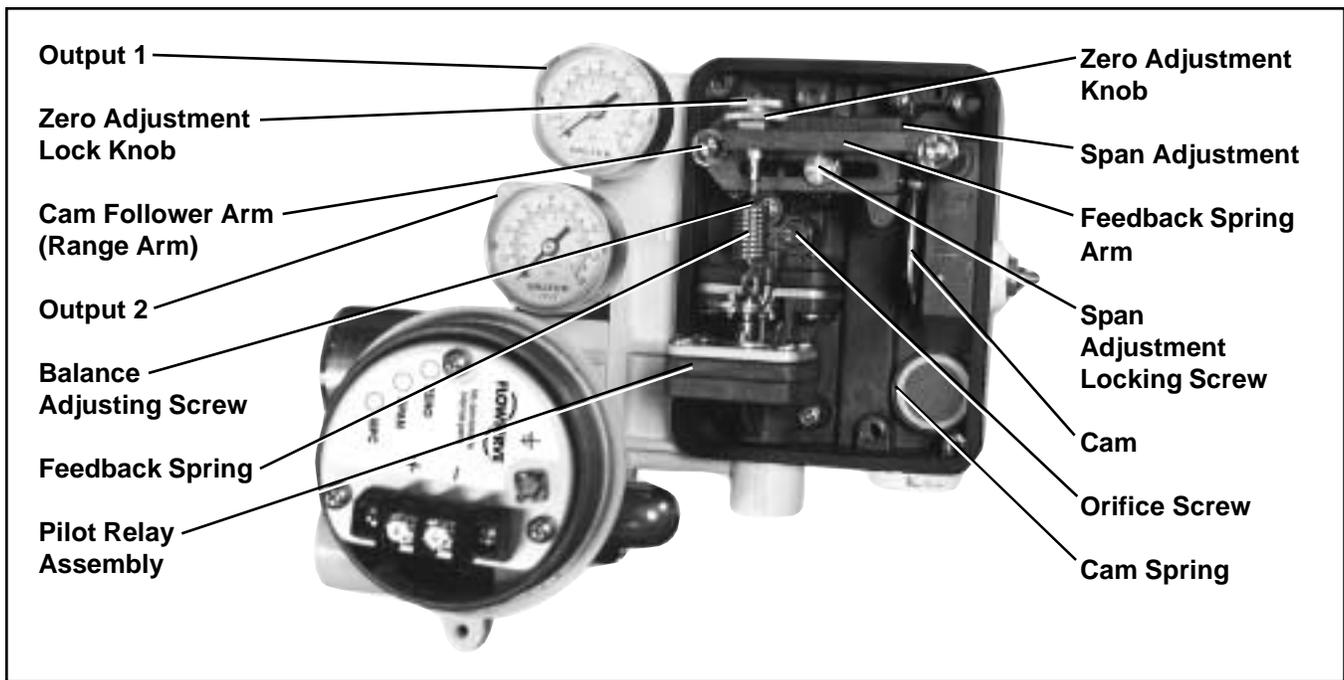

Figure 6: Positioner Adjustments
- 7. Connect Cam return spring. See Figure 6.
- 4. Remove rubber cap over balance adjustment. (See Figure 6.)